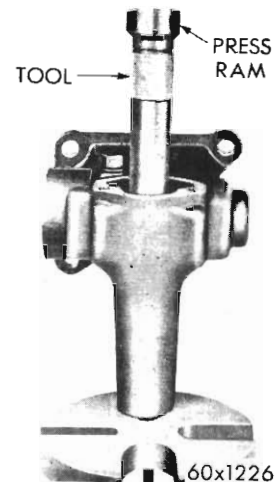

Fig. 9 - Pressing inner bearing into housing (Tool E19C20)
(1) Install the cross-shaft outer needle bearing by placing the bearing on the end of Tool E19C20. Press bearing into housing to 5/16" below the end of bore to provide space for the oil seal.
(2) Install the inner needle bearing by placing bearing on Tool E19C20 (See Fig. 9). Press the bearing into the inside end of the housing bore flush with the inside end of the bore surface.